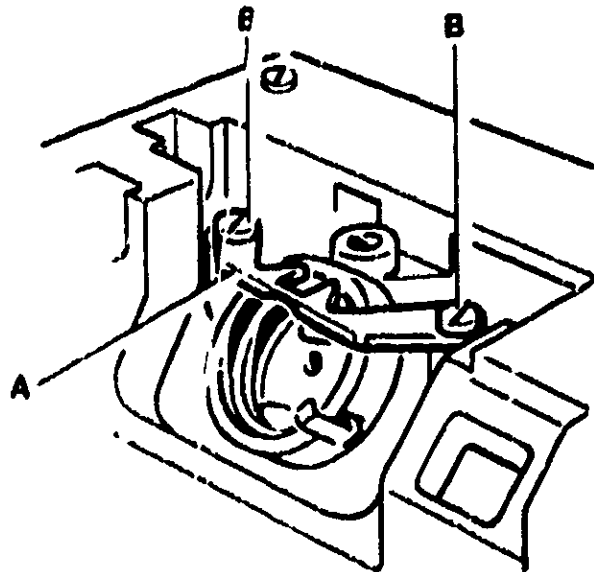

FIGURE 8
- Remove bobbin case stop (A) (Figure 8) by removing screws (B).
- To check position and alignment rotate handwheel to bring needle bar to its highest position. Remove needle, presser foot, needle plate, bobbin and bobbin case. Remove bobbin case stop (A) (Figure 8) by removing screws (B).